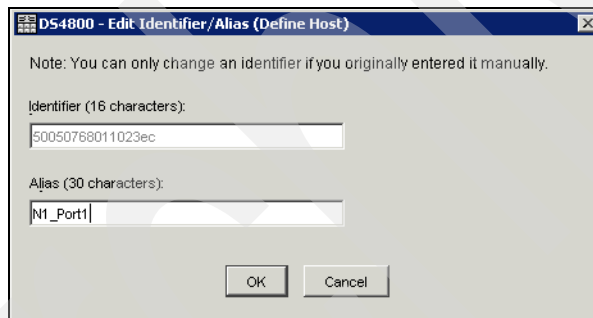

Figure 4-9 Setting the alias for the WWPN
4. Add the alias for the WWPN associated with the node (Figure 4-9). The alias must be unique for each WWPN.